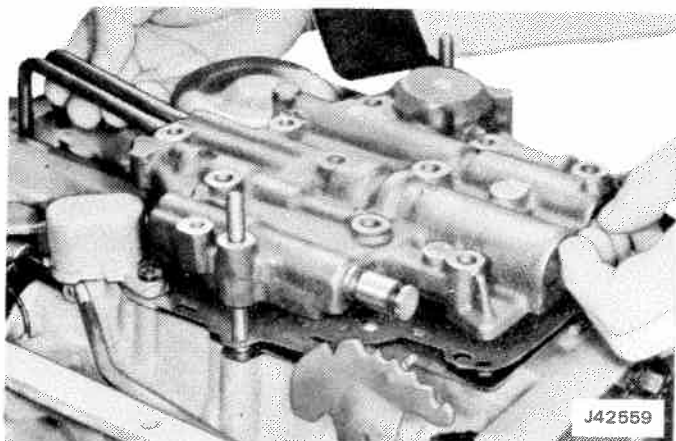

Fig. 7-129 Installing Control Valve Assembly
- (2) Insert governor pipes into valve body.
- (3) Install control valve assembly and governor pipes on transmission case, as shown in figure 7-129.